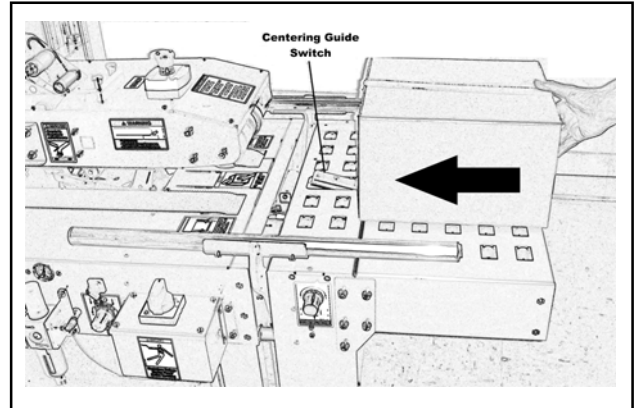

Figure 3-7—Centering Guide Switch
Centering Guide Switch (Figure 3-7)
1. A box centering switch in the center of the infeed roller conveyor actuates movement of the centering guides. When the operator pushes a box onto the infeed conveyor, as shown in Figure 3-7, the lever is depressed causing the air cylinder powered centering guides to move inward, centering the box.